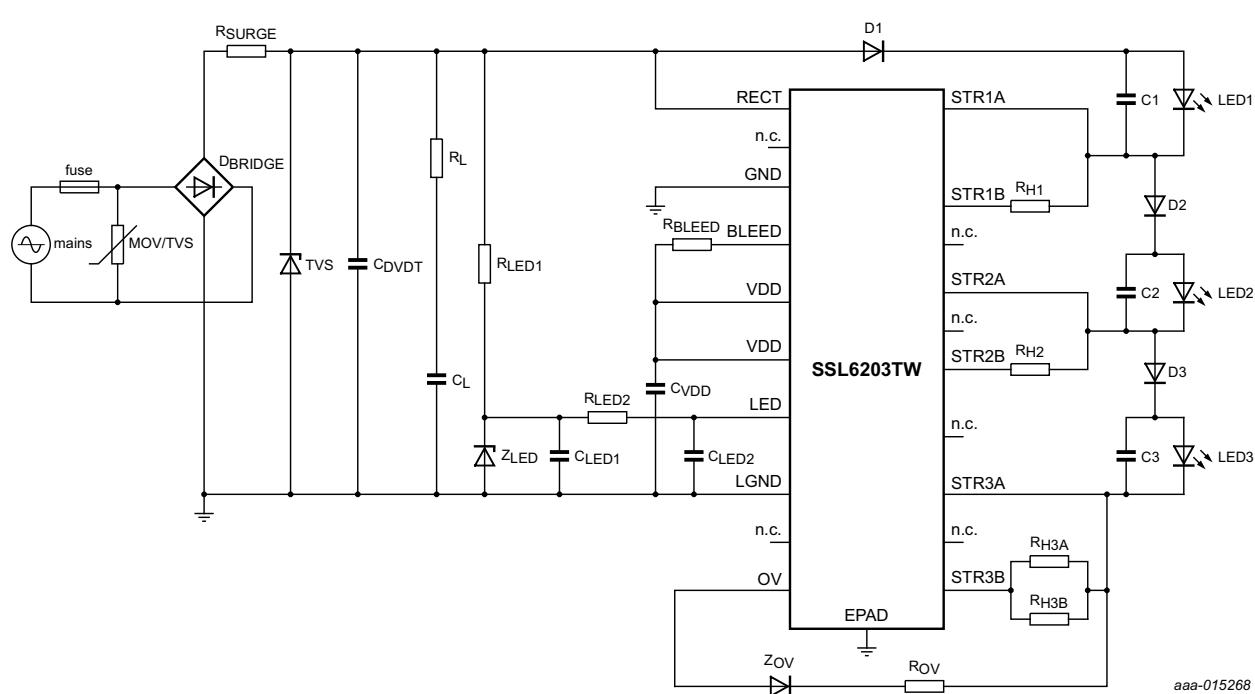

Fig 3. SSL6203TW basic application diagram
The linear LED driver in the SSL6203TW operates as a high-voltage linear current source. This current source is used to drive the LEDs. Figure 3 shows a basic application diagram. Depending on the momentary value of the rectified mains voltage, the LED current flows through one or more LED strings.
A linear LED driver is sensitive to line and load variations as they affect the on-time of the LEDs (which influences the emitted light) and the dissipation in the IC. To get a more stable line/load regulation and a more constant IC dissipation, negative feedback is available through the OV pin. The feedback reduces the LED current as the mains current voltage increases, stabilizing the IC dissipation. Zener diode ZOV and resistor ROV (see Figure 3) can set the starting point and the sensitivity of the feedback.
- When 10 % mains voltage variation is assumed, the minimum peak voltage of the mains in a 120 V (AC) system equals: $0.9 \times 120 \times \sqrt{2} = 152.7 \text{ V}$
- The bridge rectifier and the surge resistor have some voltage drop (see Figure 3)